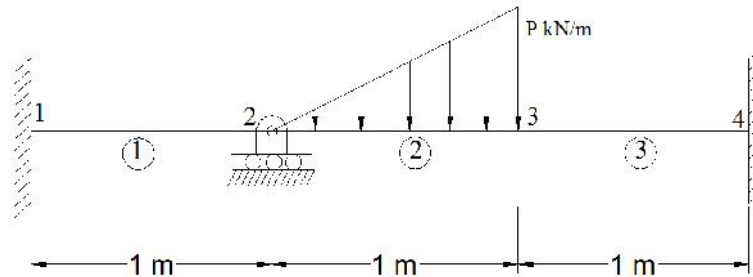

Fig.2
- 12 Calculate the deflection and slope of the beam shown in Fig.2. at 1 m from the right support.  $E = 200 \text{ GPa}$ ;  $P = 50 \text{ kN/m}$ ;  $I = 4 \times 10^{-6} \text{ m}^4$ .